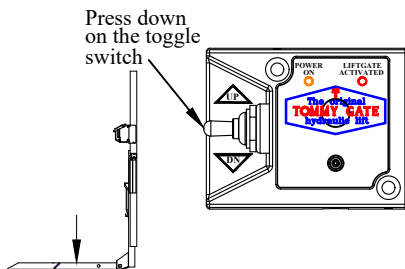

Figure 6: Step 9.
- Step 9. Continue to lower the platform slowly allowing the platform self close arm to unfold the platform to the horizontal position. Check to make sure the self close arm returns to the neutral position (Figure 6).